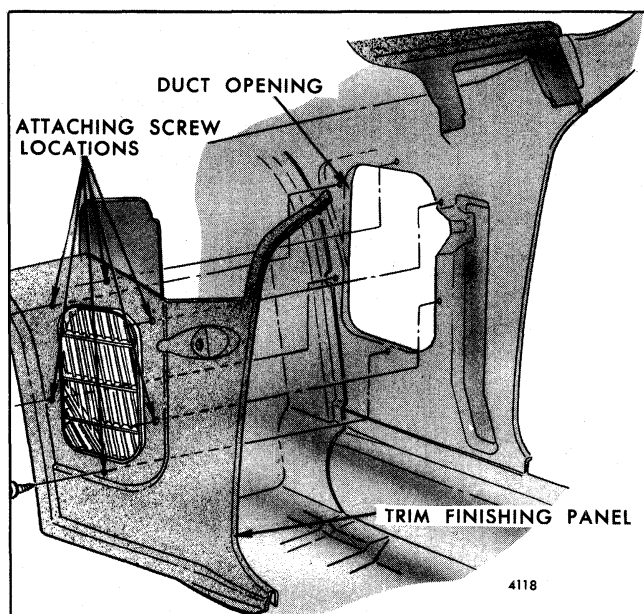

Fig. 4-7-Shroud Side Trim Finishing Panel
1. Duct openings in right and left shroud side panels (Fig. 4-7).